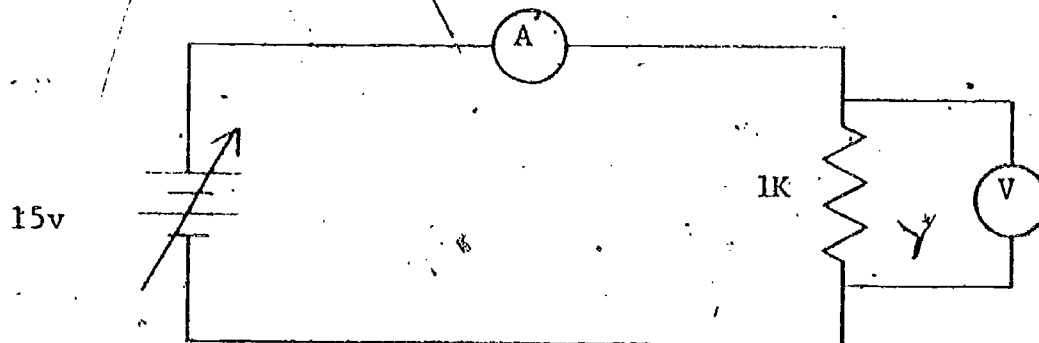

Figure 2 - Circuit to determine the current-voltage relationship of a resistor
1. Set up the circuit in Figure 2.